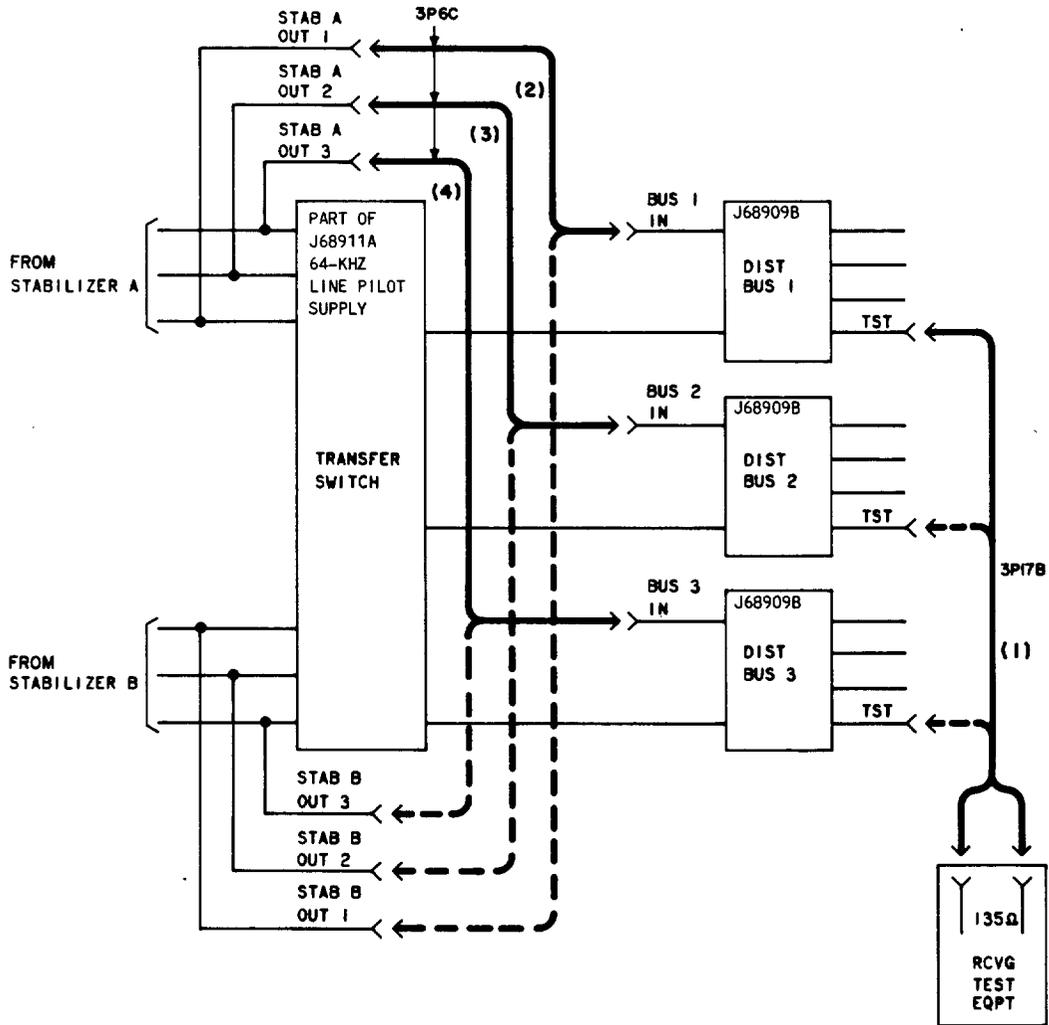

Fig. 5—Transfer Switch Replacement or Failure—Patching Procedures
3	Connect the RTE to the TST jack on the first J68909B distribution bus [patch (1), Fig. 5].
4	◆Make patches (2), (3), and (4) in Fig. 5 on independent 64-kHz pilot supply—J68911A.  Note: Depending upon equipment requirements, the BUS 2 and BUS 3 positions may not be equipped. Patches (3) and (4) are required for all equipment arrangements to ensure proper termination of the stabilizer when the transfer switch is removed.◆
6	Verify that the RTE measures a 64-kHz signal at each distribution bus TST jack [patch (1), Fig. 5].  Requirement: -30.0 dBm $\pm$ 0.5 dB